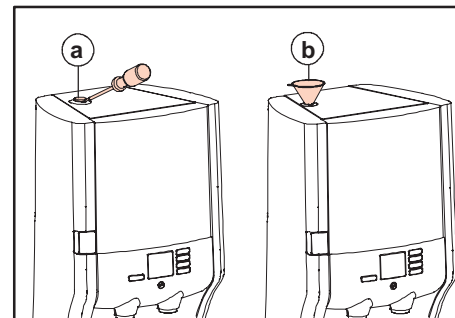

Fig. 81 Cap/funnel in descaling opening
20. Using an adaptor, remove the cap from the descaling opening (fig. 81 a).
21. Place the funnel supplied in the opening (fig. 81 b).